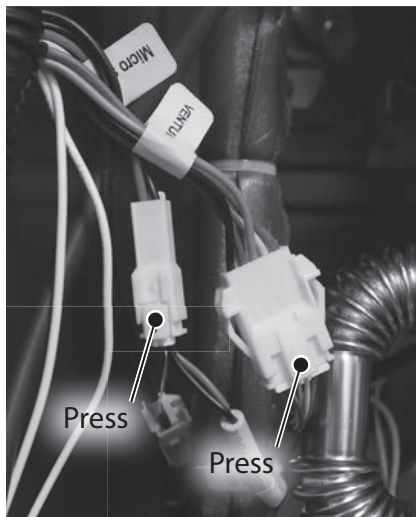

Figure 108 - Locate venturi wire harnesses
- 8 Locate the venturi wires (2x) and disconnect them as shown in Figure 108. Wires are labeled "Venturi" and "Micro Switch." These wires are connected at and run through the black cable conduit located on the left side of the water heater cabinet.